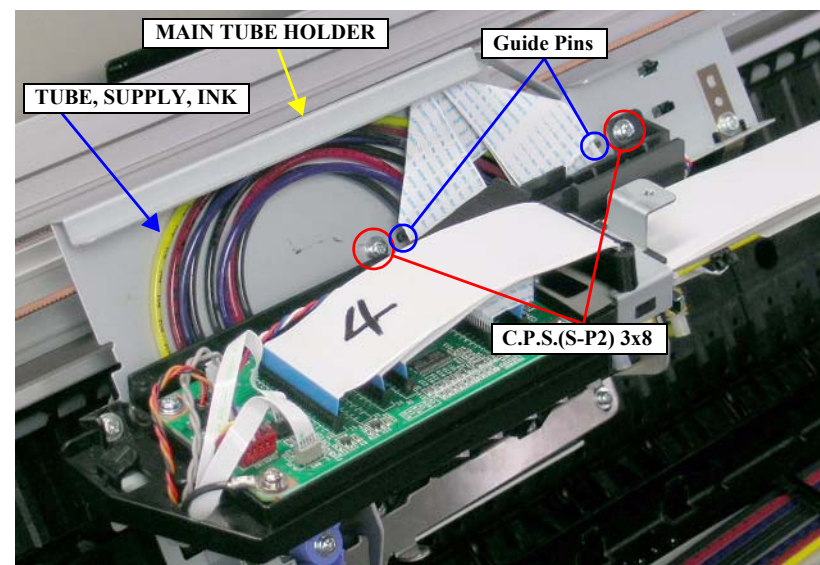

Figure 4-56. Screws for the MAIN TUBE HOLDER
6. Remove the two screws that secure the MAIN TUBE HOLDER. *See Figure 4-56.*
Set the two positioning holes of the MAIN TUBE HOLDER onto the two guide pins. *See Figure 4-56.*